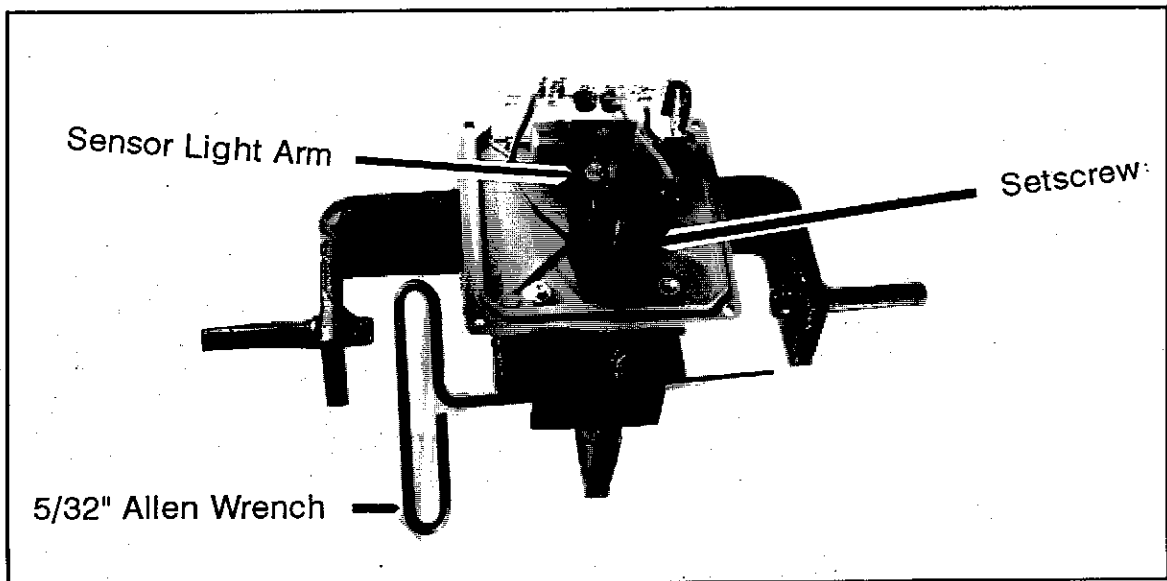

Figure 1. Wand Sensor Assembly
Under both the Toolbar Sensor and the Wand Sensor there is a sensor light arm (ref 1 fig 1) that shines a red light on 2 photo cells. When shipped from the factory, the red light from the sensor light arm is preset to shine in the center of the 2 photo cells (ref 2 fig 1), making the toolbar and wand sensor center properly. If the toolbar doesn't return to center when raising the 3-point, making the auto center light lite, or if the Guide Hitch doesn't place the cultivator in the middle of the row with the auto/manual switch (ref 6 page 2.1) in the auto position the sensor arm of either the toolbar or the wand sensor may have come loose and need readjusted. Figure 1 below shows the sensor assembly for reference in the following instructions. Left and right, as referred to, are from behind the sensor looking towards the photo cells. Replace the cover firmly after each adjustment, as outside light will interfere with the red light from the sensor light arm giving you wrong indications.
Centering the TOOLBAR SENSOR -- When you raise the 3-point the auto center light (ref 9 page 2.1) lights and with the auto/manual switch (ref 6 page 2.1) in the auto position the hitch should center, if it doesn't 1) switch the auto/manual switch to manual 2) move the hitch to the center with the manual offset knob (ref 2 page 2.1) 3) turn off the hydraulic flow with the tractor hydraulic lever 4) switch the auto/manual back to auto 5) remove the gray plastic cover and loosen the setscrew and adjust the sensor arm (ref 1 fig 1) slightly left or right until both hydraulic valve indicator lights are out. **NOTE:** if the hydraulic valve light is red the sensor arm must be moved to the right, and if the light is green it must be moved to the left. 6) with the cover on and both hydraulic valve lights extinguished, retighten the set screw on the sensor arm and replace the gray cover, making sure that the gasket is in place.
HYDRAULIC FLOW CONTROL -- A standard feature on the Guide Hitch is a flow control adjustment (*ref 4 fig 1*) to vary the correction speed of the Hitch. This adjustment is a handknob with a finger-type locknut on the outer side of the hydraulic assembly on the Guide Hitch. It has 6 turns (0 - 6 GPM) and when turned completely in (CW) there is NO flow and turned completely out (CCW) it is at approximately 6 GPM. From the factory it is adjusted to 3 turns out, this is a good setting to start with when crop heights are at the minium and cultivating speeds are in the 3 - 4 MPH range. When both crop heights and cultivating speeds increase adjust flow control out to speed up the correction time of the Hitch.
HYDRAULIC SOLENOID VALVE -- This is the bi-directional hydraulic solenoid valve (*ref 3 fig 1*) that moves the cylinder left and right by the signals being sent from the wand or toolbar sensor. The solenoid valve has two 12 volt coils, each having a ground and a power wire which is connected to the toolbar sensor box via the 33" cable. NOTE: one nice feature of the solenoid valve is the rubber boots that cover each end of the valve spool. Thru these boots you can feel and verify that the spool is moving left or right according to the hydraulic valve lights on the control box (*ref 10 page 2.1*). Also with a blunt end of a tool you can push in on the spool thru these boots and actually move the spool, shifting the hitch left or right even without electrical power. This is helpful in trouble shooting.